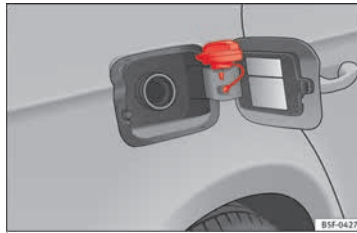

Fig. 59
- Place it in the space on the hinge of the open flap »» Fig. 59.